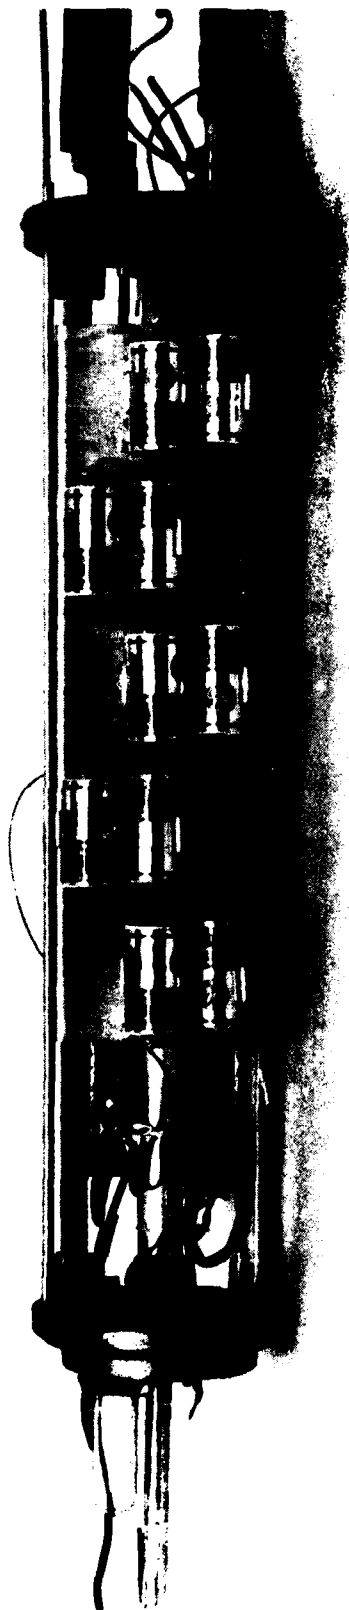

FIGURE 1
- a. The battery pack shown in Figs. 1 and 2 consists of an aluminum bracket to which five 2-cell battery holders have been attached.